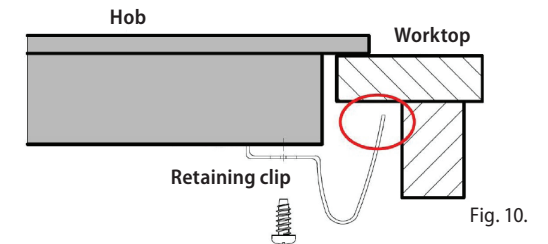

Fig. 10.
12. Secure the hob in the required position from the bottom to the worktop with the supplied retaining clips (Fig. 10).